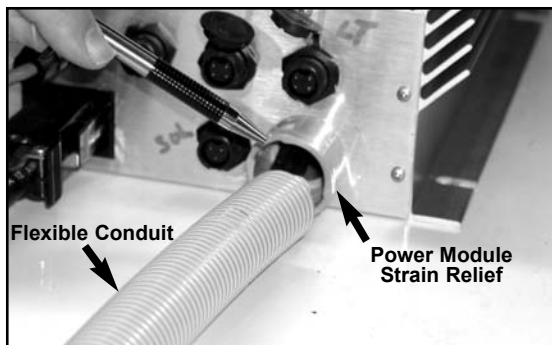

Figure 3
3. Secure Flexible Conduit into Power Module Strain Relief. See **Figure 3 & 3a**.